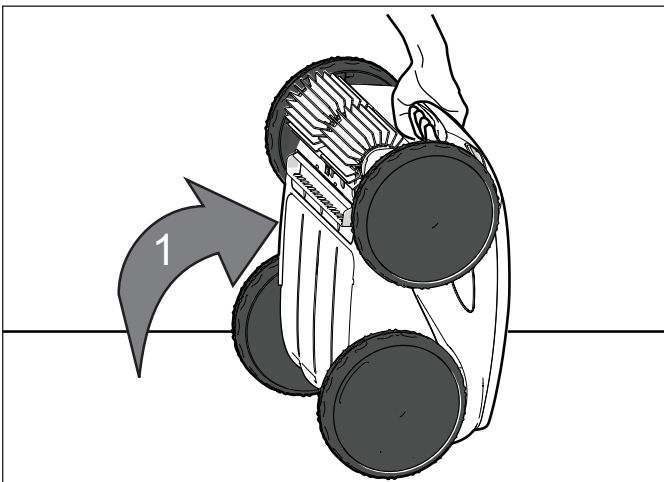

Figure 26. Place Cleaner in Upright Position
1. Lift the cleaner to a vertical position so that the handle is up (Figure 26).